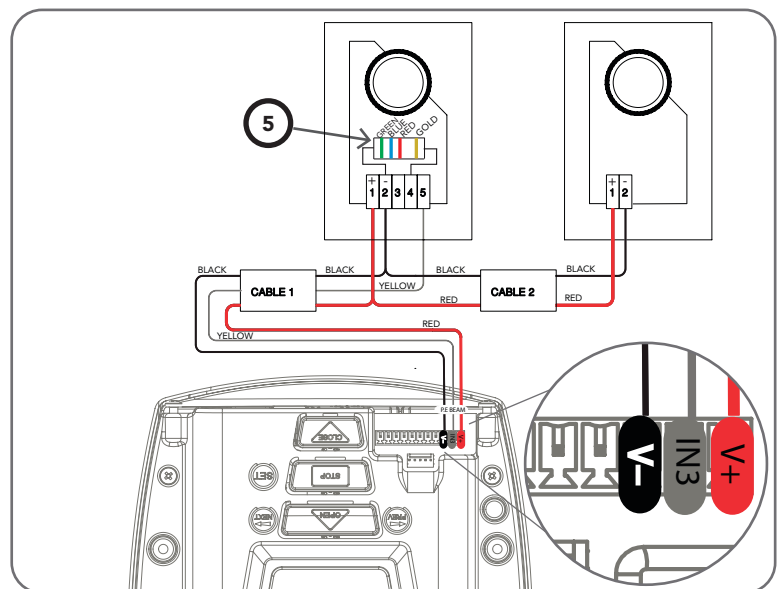

Fig 8.3
- For three wire beams connect the Resistor 5k6 ohms (Green Blue Red Gold) (5) to number 2 (two) and 4 (four) terminal on the Safety-2 receiver (Fig. 8.3). Make sure to align the beams correctly. Follow the manual supplied with the Safety Beams.